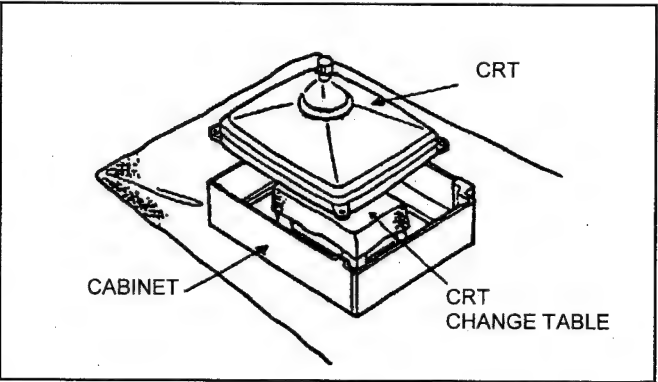

Fig. 5
4. After 4 nuts have been removed, put the cabinet slowly on cloth (At this time, be carefully so as not to damage the front surface of the cabinet) shown in Fig.5.